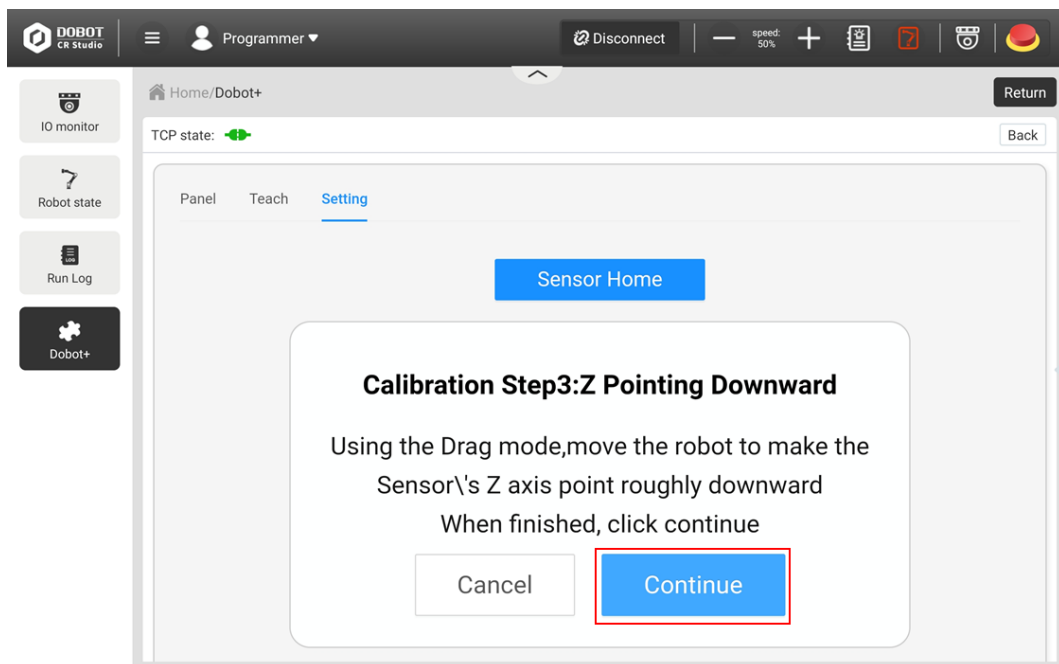

Figure 4.6 Calibrate Z-axis direction
Step 6 Click **Continue** in the Setting page to calibrate Z-axis direction, as shown in Figure 4.6.